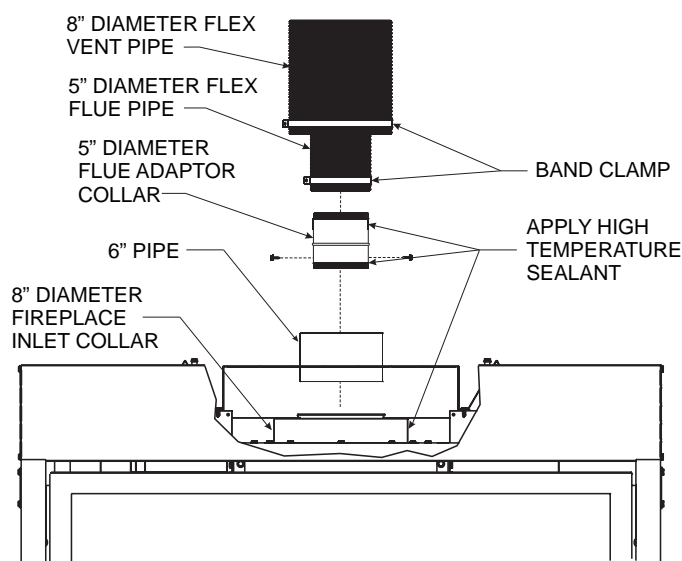

Figure 70
10. Apply sealant to the outside of the flue pipe adapter and connect to the flex flue pipe. Then insert the adapter into the fireplace flue. Secure flue adapter to the fireplace flue with a minimum of two screws provided. **See Figure 70.**